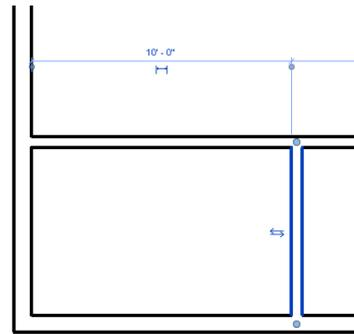

Figure 3-64 The adjusted inner wall distance
4. Now, click on the temporary dimension, enter the value **10'(3048 mm)**, and then press ENTER; the interior wall is moved to the desired distance 10'-0" from the interior face of the exterior wall, as shown in Figure 3-64.